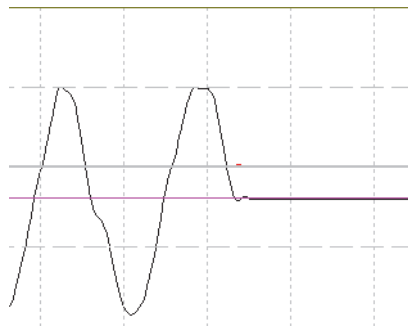

Fig. 3.5.
**Dir1** and **Dir2** items of **Combine** combo box allow to align centers of two combined axes. Combined axes work is shown on Fig. 3.5.